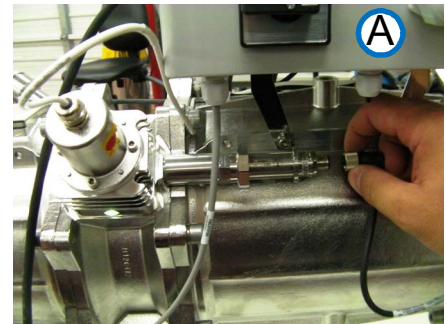

Figure 10-26: Removing connector A (Generic View)
- Step 1.** To disconnect the harness connector (shown in view A, **Figure 10-26**), unscrew the sensor's threaded locking nut.